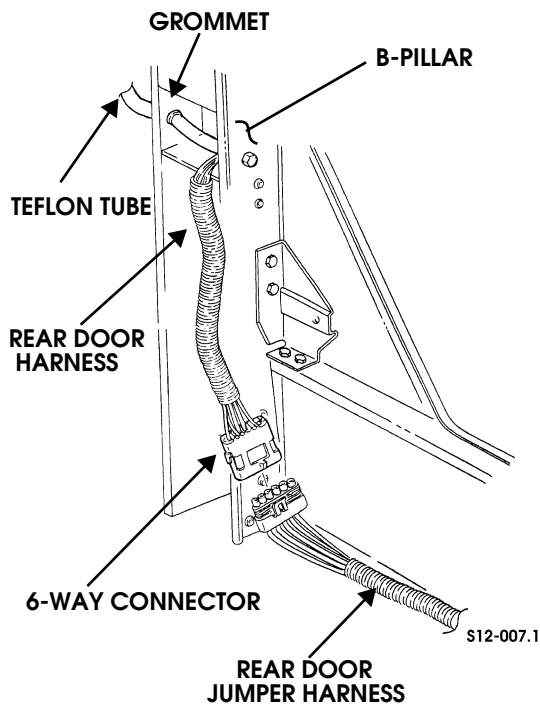

Figure 2-122: Rear Door Harness and Rear Door Jumper Harness
4. Disconnect 6-way harness connector from power windows and door locks rear door jumper harness connector (Figure 2-122).